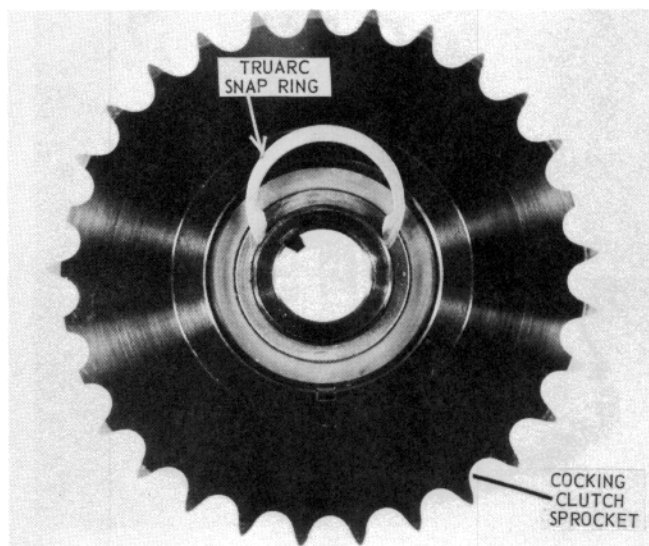

Figure 53 — Cocking Clutch Sprocket and Snap Ring
3.1.1 Remove the Truarc snap ring located just above the cocking clutch sprocket (see Figure 53).